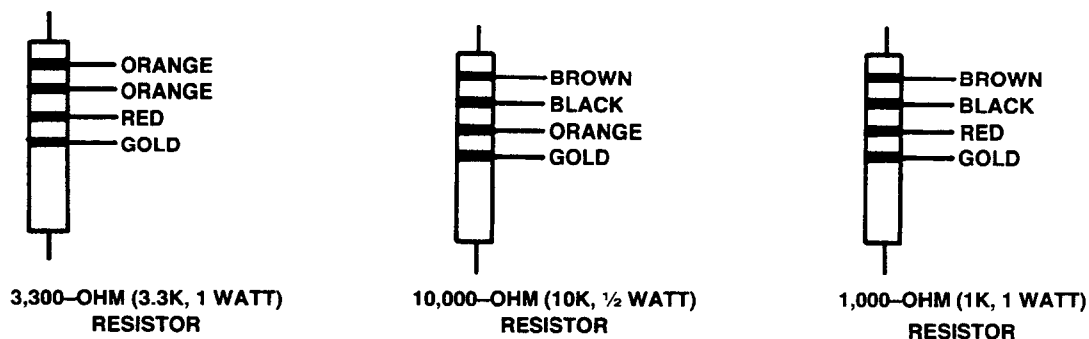

FIGURE 5
- Use the following resistor color code (Fig. 5) to identify the end-of-line resistors (EOLRs) used in the installation: